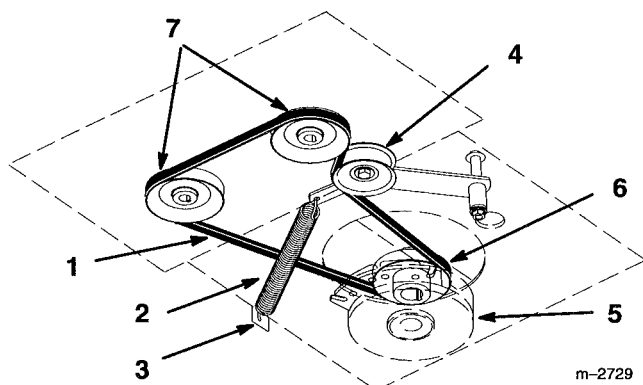

Figure 31
3. Unhook idler spring from frame tab (Fig. 31).
4. Move idler pulley sideways and remove traction belt from the engine and hydro pump pulleys (Fig. 31). Remove belt over clutch.
5. Install new belt over clutch and around engine and hydro pump pulleys (Fig. 31).
6. Move idler into belt and hook idler spring onto frame tab (Fig. 31).